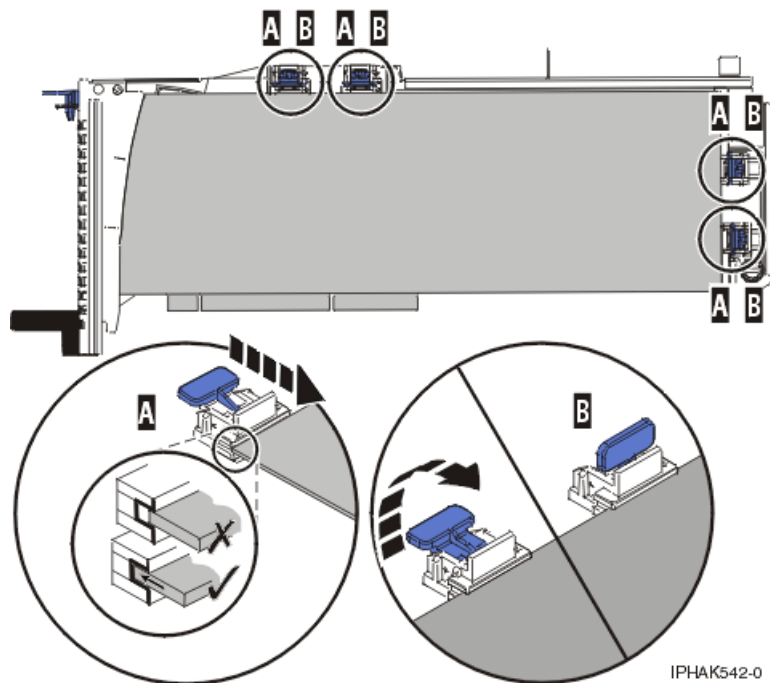

Figure 53. Long adapter in the PCI adapter cassette with the supports and stabilizer in place
- 3) Place and lock the retainers (**B**). See Figure 53.